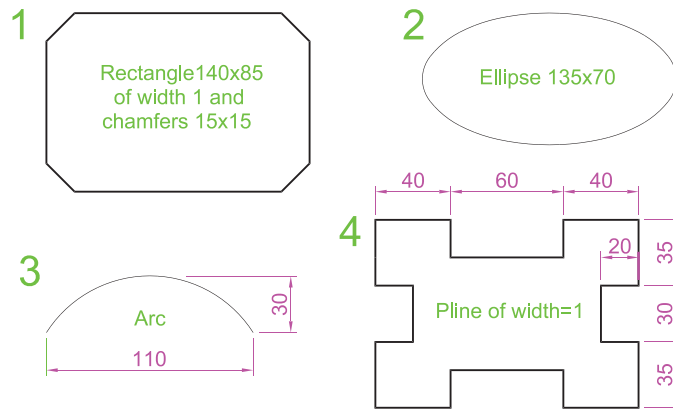
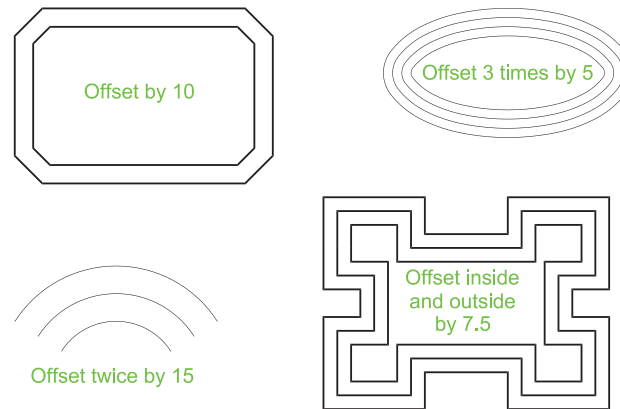

Fig. 5.13 Examples – **Offset** – outlines
Fig. 5.14 Examples – **Offset**
Examples – **Offset** (Fig. 5.14)
1. Construct the four outlines shown in Fig. 5.13.
3. Repeat for drawings **2**, **3** and **4** in Fig. 5.13 as shown in Fig. 5.14.